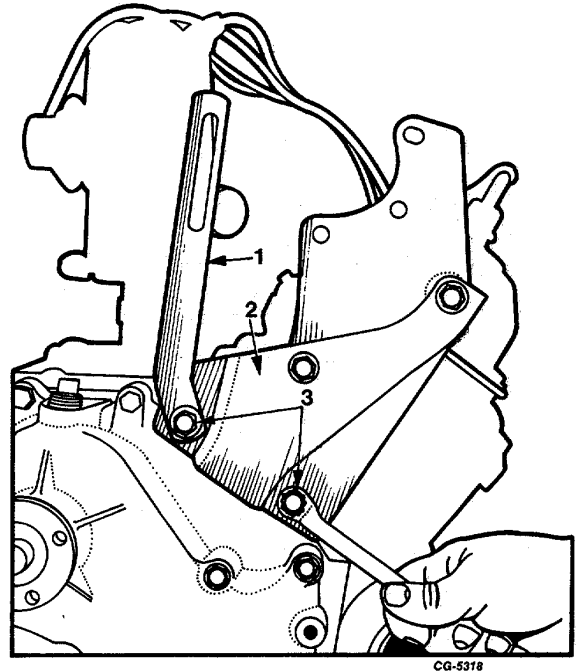

Fig. 25 Removing Power Steering Bracket and Strap
- 21. Remove power steering bracket with adjusting strap, Figure 25.